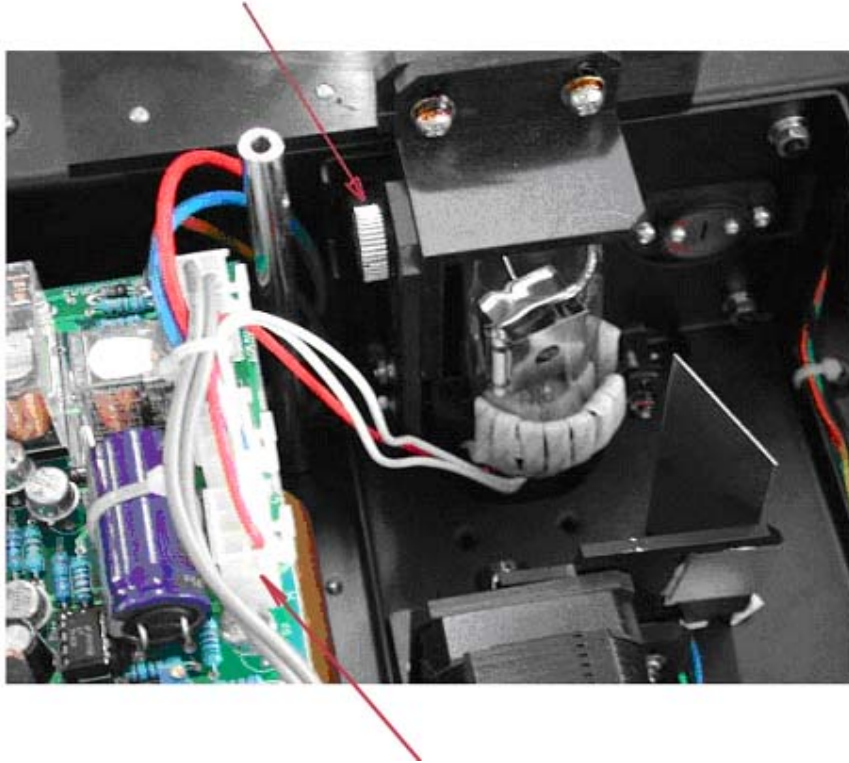

Figure 7.7 Take off the Deuterium Lamp
2. Disconnecting the connector J7 on the PCB marked SST8.411.128. Unscrew the screw that holds the lamp bracket to the instrument base. Pull the entire lamp and lamp holder assembly out. Shown in Figure 7.7.